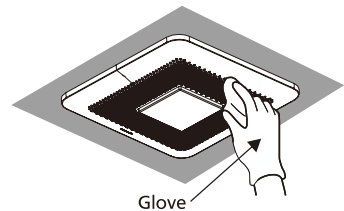

Fig.14
1. Clean grille. (Don't put into hot water. Use non-abrasive kitchen detergent, wipe dry with clean cloth.) (Fig.14)